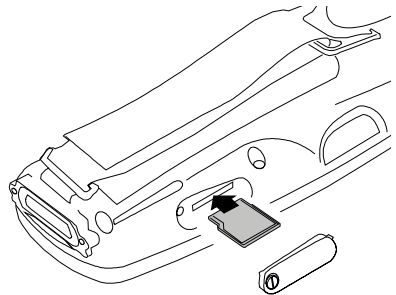

Figure 9. Mini SD Card Installation
3. Insert the Mini SD card as shown in Figure 9.